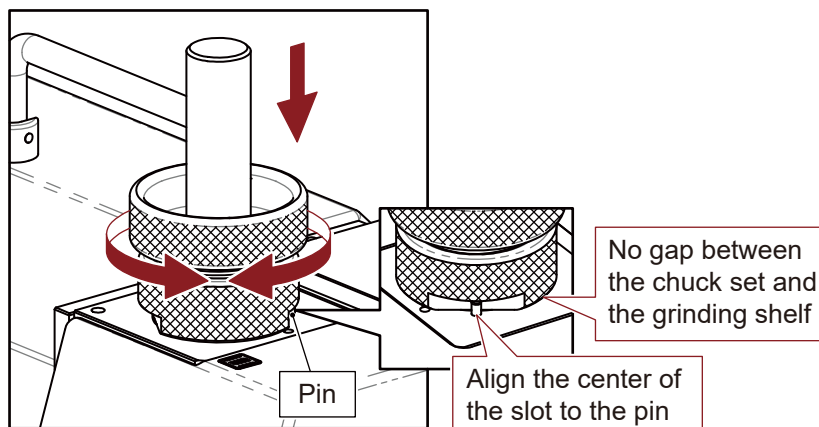

Fig. 9-2
2. Web Thinning (Fig. 9-2)
- ① Insert the chuck set into the web thinning grinding shelf (II), align the slot of clamping nut to the pin on the grinding shelf, push the chuck set gently and turn it clockwise and counterclockwise until the grinding noise stops.
- ② Take the chuck set out, turn it to the other side and grind the drill in the same way.